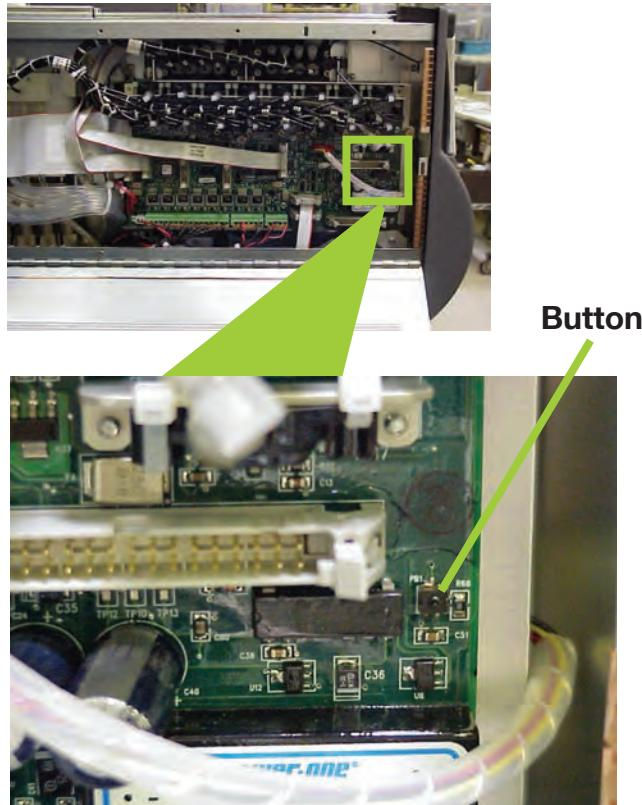

Figure 6-1. Vertex M Analyzer Manual Override Button Location
The Vertex M Analyzer is equipped with a “Manual Override” button (Figure 6-1) in the event the communications to the Vertex M Data Acquisition (DAq) computer halts. This button activates only when the communications has completely ceased.
4. Approximately 20 seconds after the Ethernet Cable has been disconnected, the Analyzer will recognize that it has lost communications with the DAq and activate the “Manual Override” button shown in Figure 6-1. The LEDs on the front of the Analyzer will flash to show a Maintenance Fault per the LED status flash pattern shown in Table 6-1.